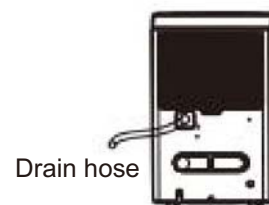

Fig.10
- Remove the plastic cover from the back drain outlet of the unit and set aside, then insert the drain hose through the drain outlet of the unit and lead the drain hose to the floor drain or a suitable drainage facility. (See Fig.9 and Fig.10)